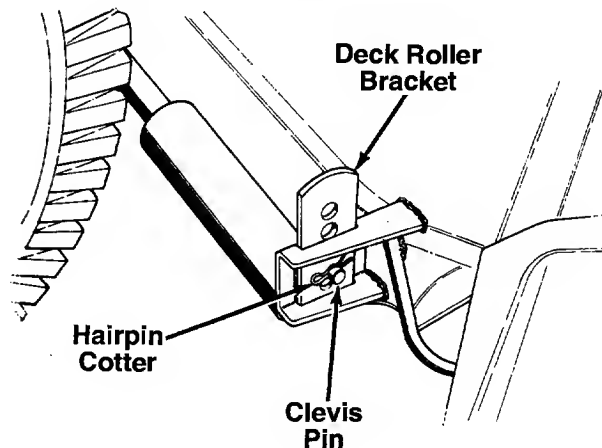

FIGURE 3.
5. Remove the hairpin cotters and clevis pins from each side of the deck roller bracket. Raise the deck one notch on each side. Secure with hairpin cotters and clevis pins just removed. See figure 3.
deck to be in the same position as the undercarriage locks for an even cut. Refer to figure 3.